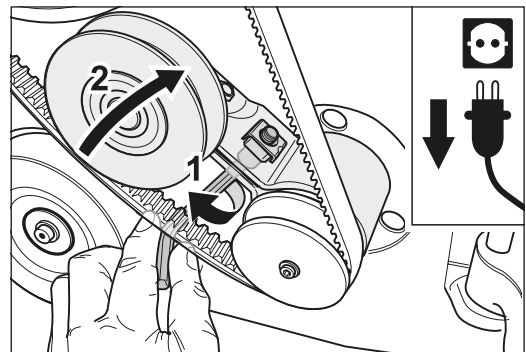

Fig. 89 Open the clamping screw of the belt tensioner (1) and release the tension of the suction V-belt (2).
- 6 Open the clamping screw of the belt tensioner for the suction V-belt (fig. 89, 1).
- 7 Turn the belt tensioner clockwise to release the tension of the suction V-belt (fig. 89, 2).
- 1 Open the clamping screw of the belt tensioner for the suction V-belt (fig. 89, 1).
- 2 Turn the belt tensioner clockwise to release the tension of the suction V-belt (fig. 89, 2).